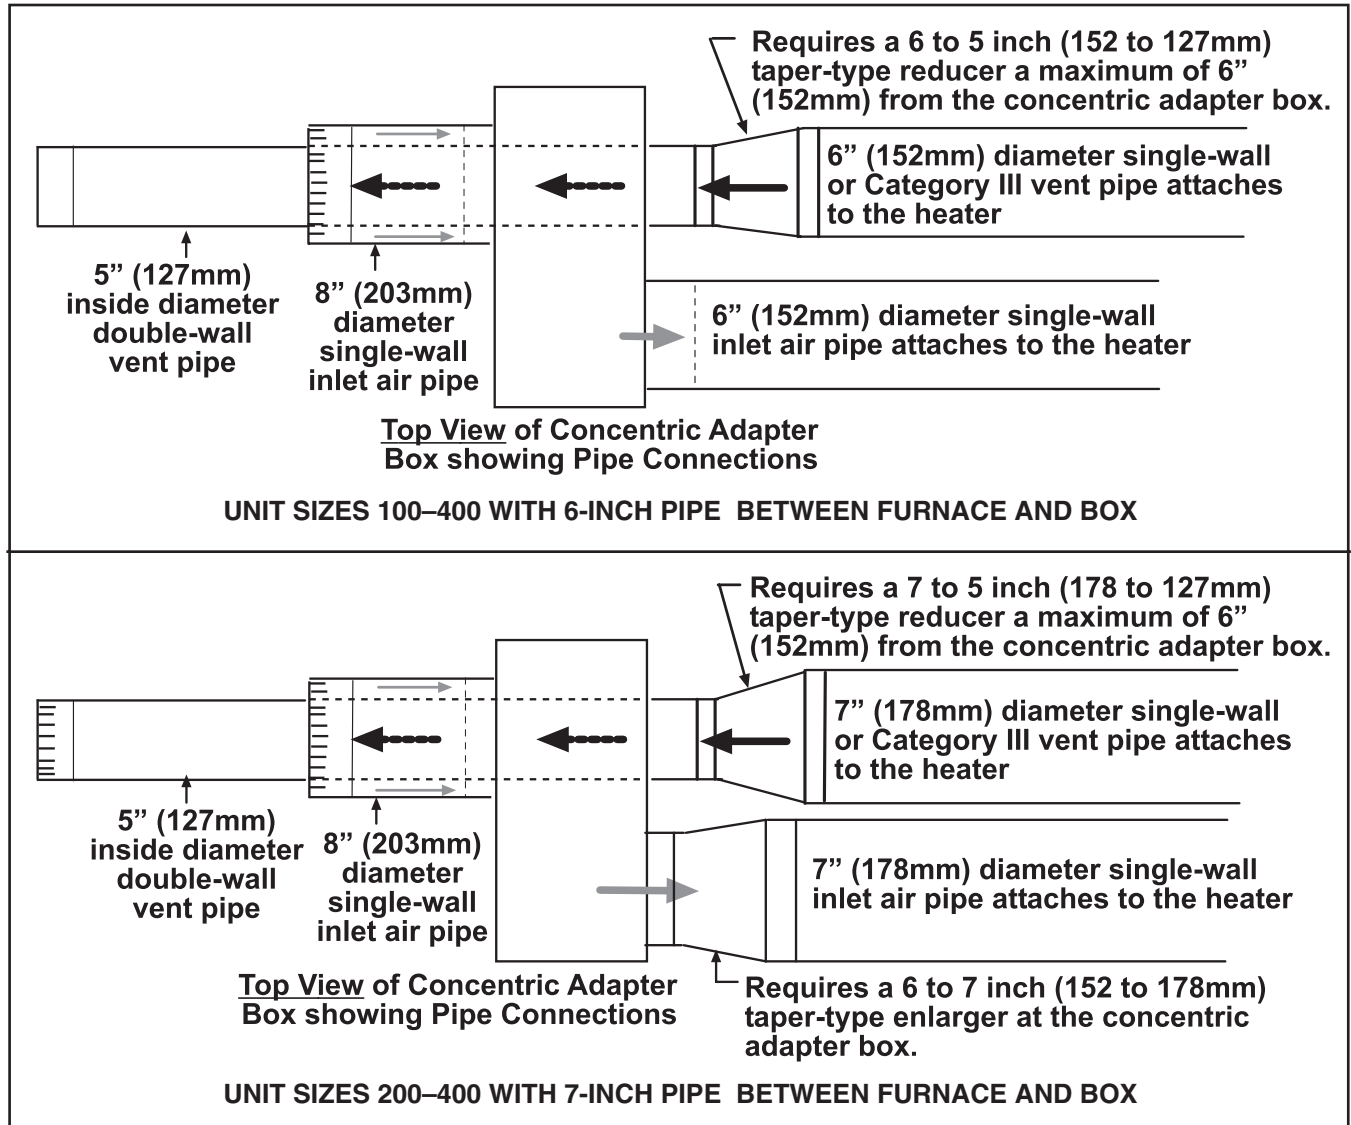

Figure 14. Concentric Adapter Box Connections
When pipe diameters differ, depending on direction of airflow, join the pipes with either a tapered reducer or enlarger as shown in Figure 14.
- a. Secure single-wall combustion air pipe run to collar on concentric adapter box using sheet metal screws. If using 7-inch piping (unit sizes 200–400), install tapered enlarger as shown in Figure 14.